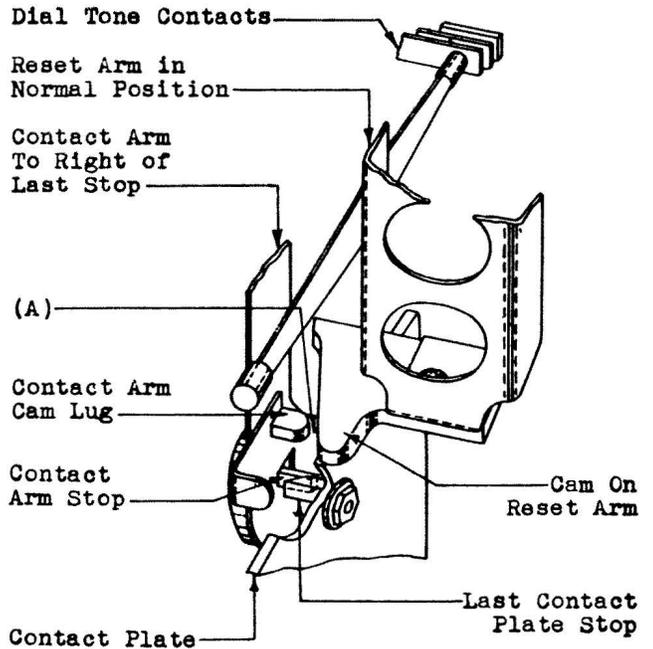

Fig. 22 - Clearance Between Cam on Reset Arm and Contact Arm Cam Lug With Reset Arm in Normal Position and Contact Arm to Right of Last Contact Plate Stop
(b) Fig. 22 (A): With the reset arm in its normal position there shall be a clearance between the cam on the reset arm and the contact arm cam lug of